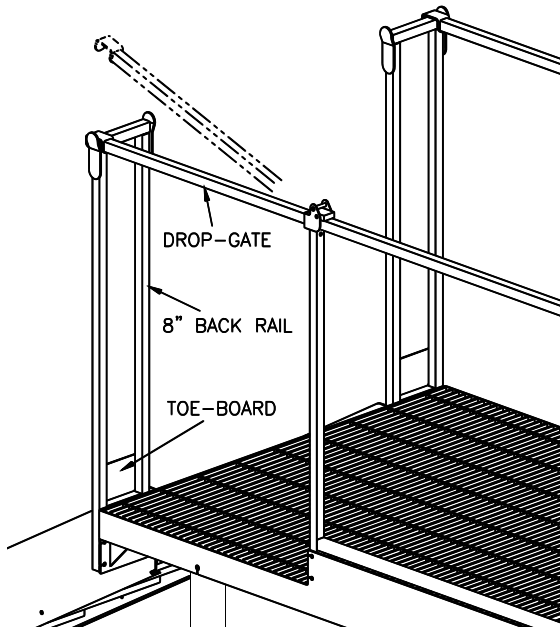

Fig 27 – Drop-Gate
- 51) * Install the two (2) platform back rails (8"). Note that this is the only rail that does not bolt to the inside of the toe-board, but instead bolts to the outside of the platform and has the toe-board built into the rail. Connect the drop-gate bar to both side rails and ensure that it latches against back rail, **Fig 27**.